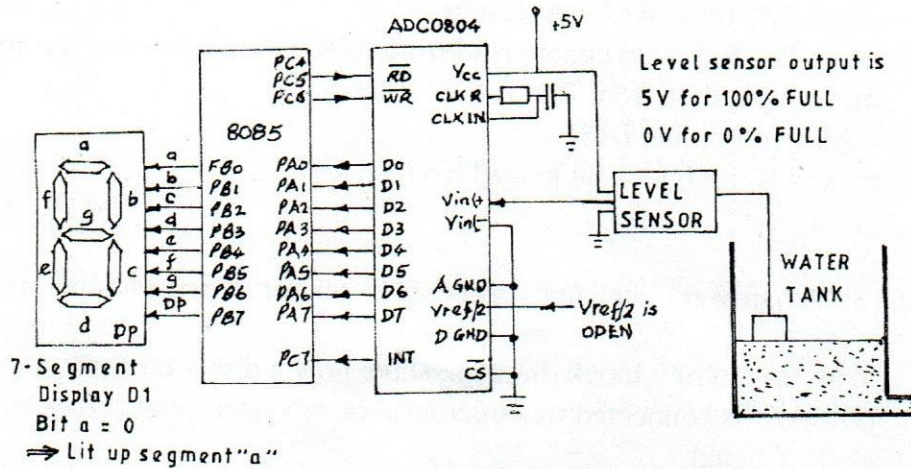

Fig. 1
5. Figure 1 shows a water level measuring system. A 8085 microcomputer is connected to a level sensor, through an 8-bit analogue-to-digital converter, which gives 5V when the water tank is 100% full.